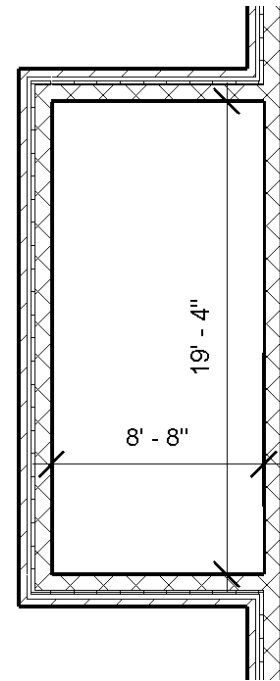

FIGURE 3-3.8 Revised west stair
23. Draw a wall so the gypsum finish continues on the office side, using the *Align* tool if necessary (Figure 3-3.8).